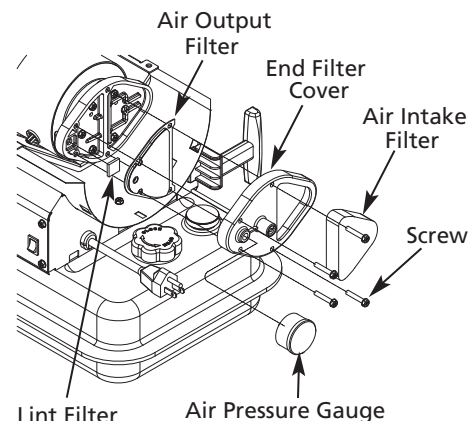

Figure 14 - Filter Assembly
- Remove upper shell and fan guard (See Air Intake Filter Figure 14).
- Turn nozzle adaptor 1/9 turn (40°) to counter clock wise and pull toward motor to remove. (See Figure 14)